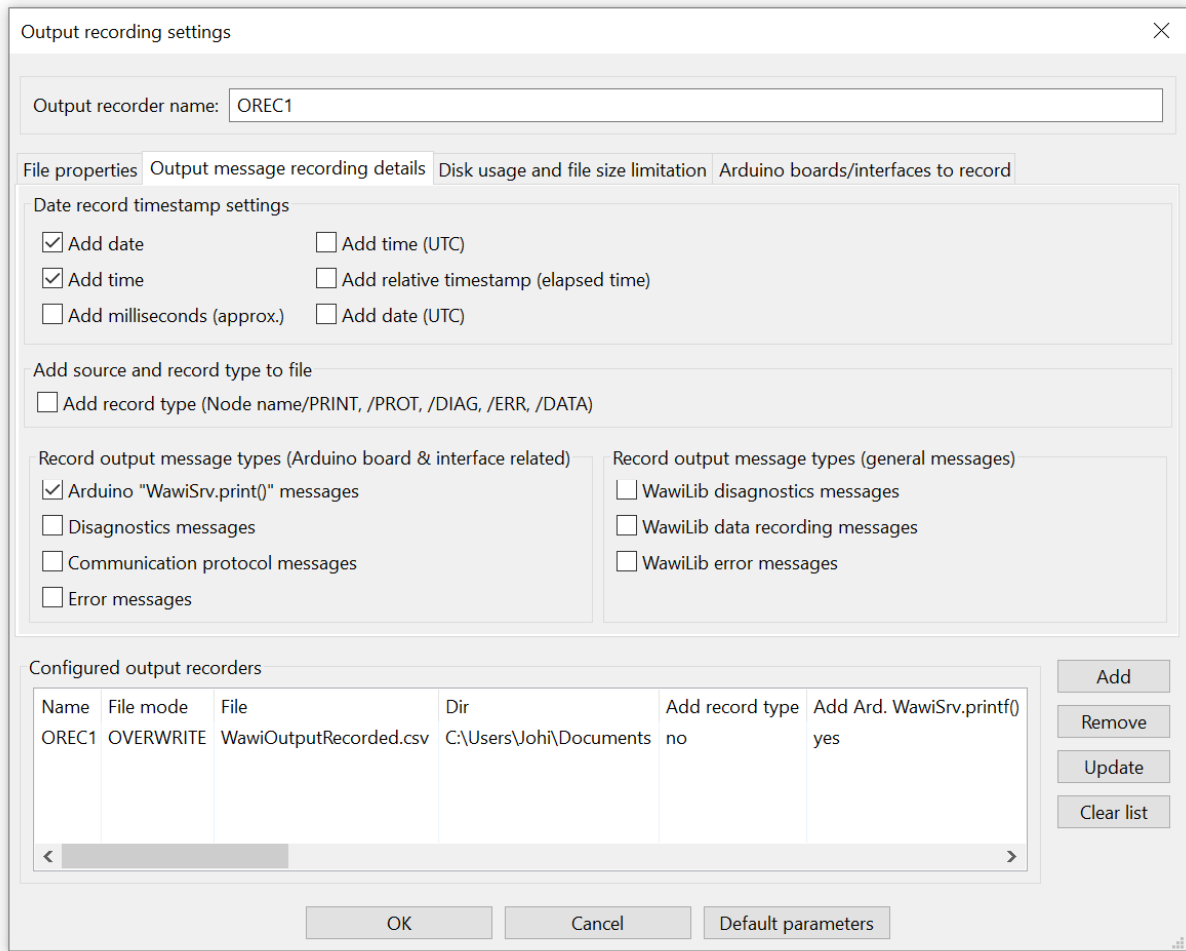

Fig. 8.2. Select subset of output recorder messages to be recorded.
- ✓ Select Arduino WawiSrv.print() messages (see Fig.. 8.2.)